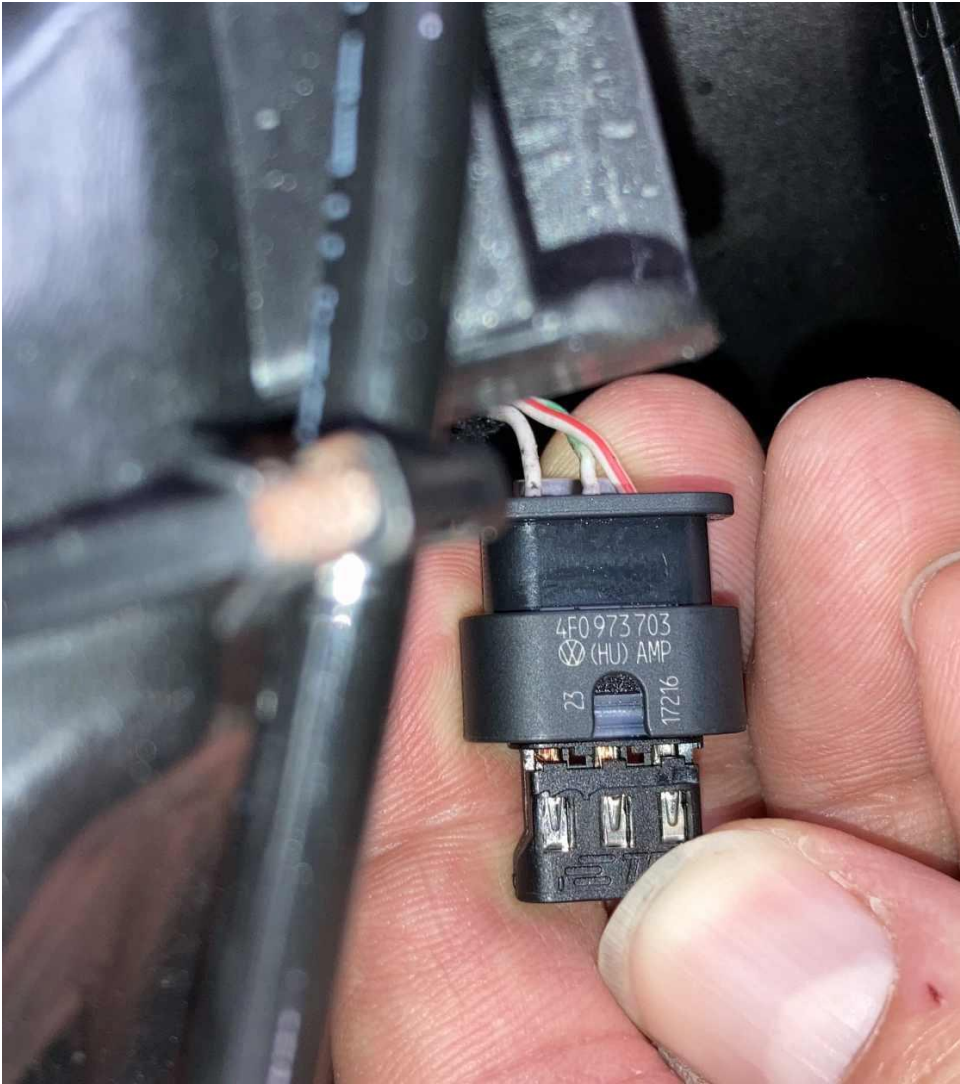

Figure 3
2) Referring to Figure 3 and the attached PDF instructions - De-pin/Remove PIN's 1 and 2 from connector T3dd